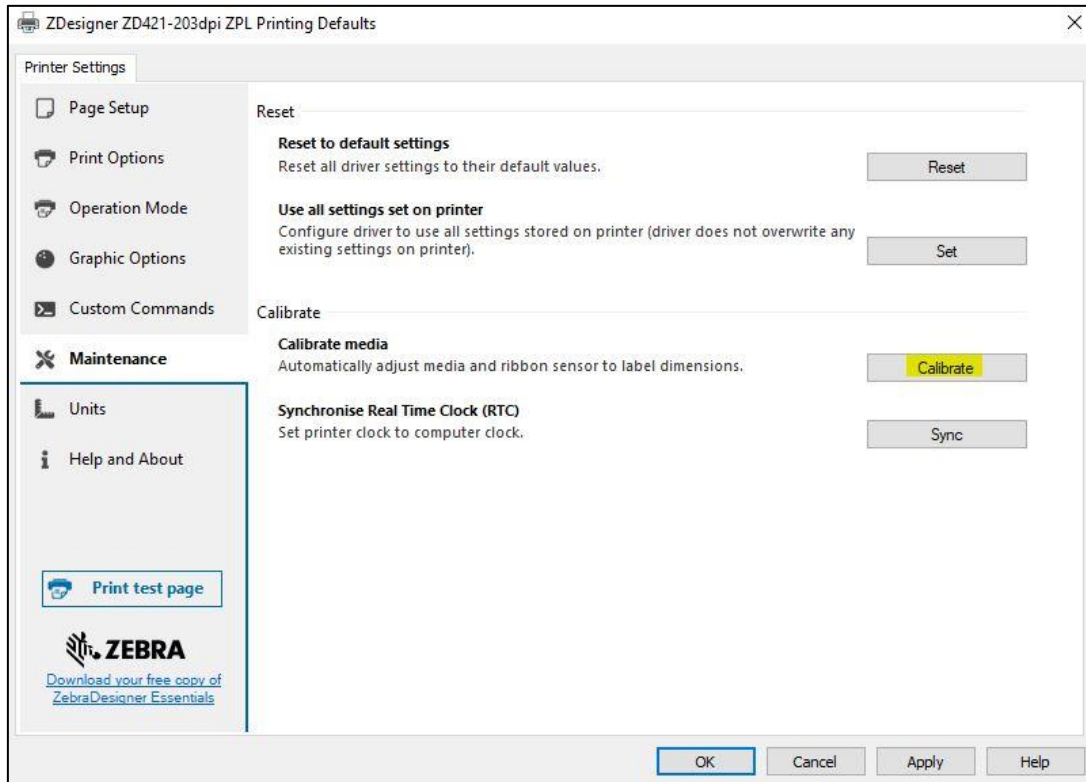

Figure 17: Calibrating the medium
- Figure 17: Calibrating the medium 10
If, when printing, there is a shift in the contents of the label, we advise to carry out medium calibration via printer drivers. In this procedure, the printer automatically adjusts the medium and the sensor to the label's dimensions. You can start the process by clicking the button *Calibrate* in the **Maintenance** tab (see Figure 17).